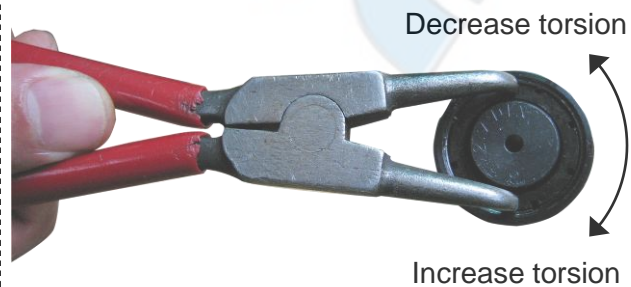

Figure 9-2
- (3) Rotate notched nut clockwise to increase torsion, counterclockwise to decrease torsion (see Figure 9-2).
- (4) Replace spring clip into groove of the tap holder.